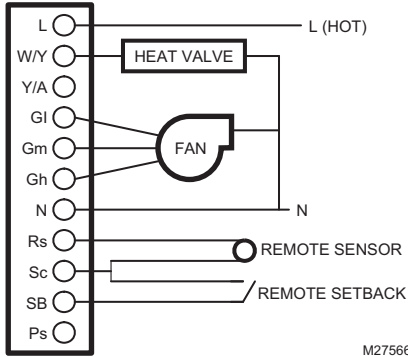
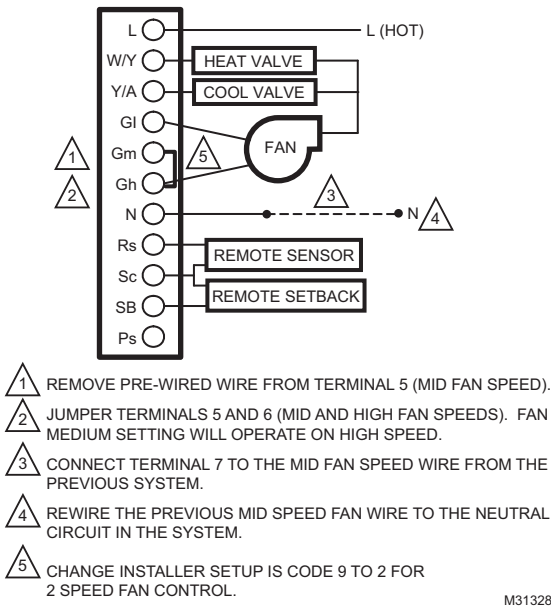

Fig. 7. Two pipes Heat-only wiring diagram (120/240/277 Vac shown).
Fig. 13. Wiring diagram when missing a wire for electromechanical retrofit (120/240/277 Vac shown).
- TB6575A1000, TB6575B1000 and TB6575C1000 fan coil thermostats, which are 120/240/277 Vac powered. Refer to Fig. 7–Fig. 13, beginning on page 7,